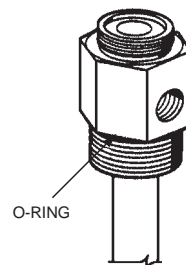

FIGURE 14
- b. Clean and coat O-ring with a good grade of extreme temperature grease. See Figure 14.